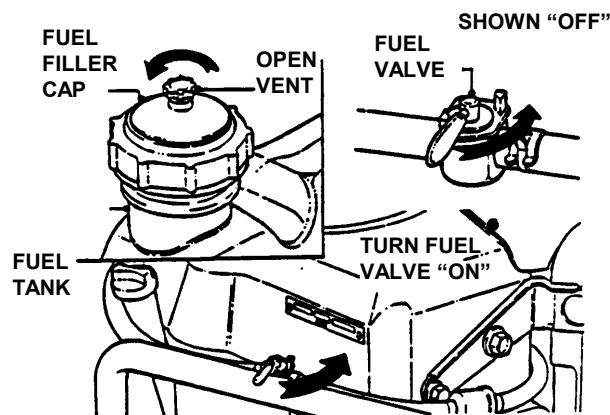

FIGURE 2.2
**2.1.8.** Add fuel to tank after pushing the Rear Engine Rider outside where fumes can dissipate. Make sure fuel filler cap is tight, vent is open and fuel valve is "ON" after refueling. Refer to engine owner's manual. See Figure 2.2.